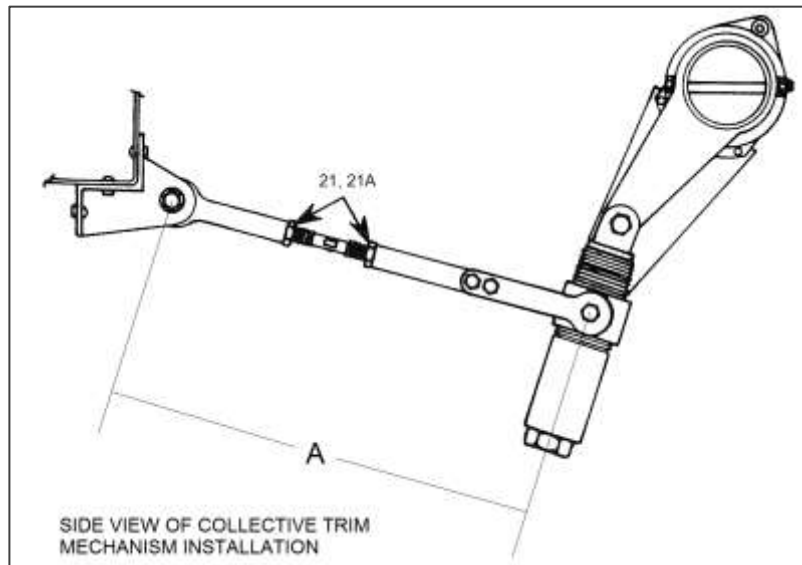

Figure 2. Collective Trim Adjustment Rod Assembly Length
- 6.4.1 Measure the length (A) from the strap retainer attachment point to the seat structure attachment point (Figure 2). Record the value for step 6.5.5.